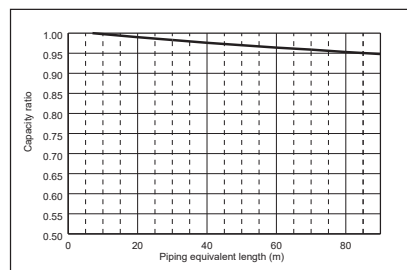

Figure 6 Correction of refrigerant piping length
- Piping Length Correction (60 m)                      0.96 (Refer to Figure 6)